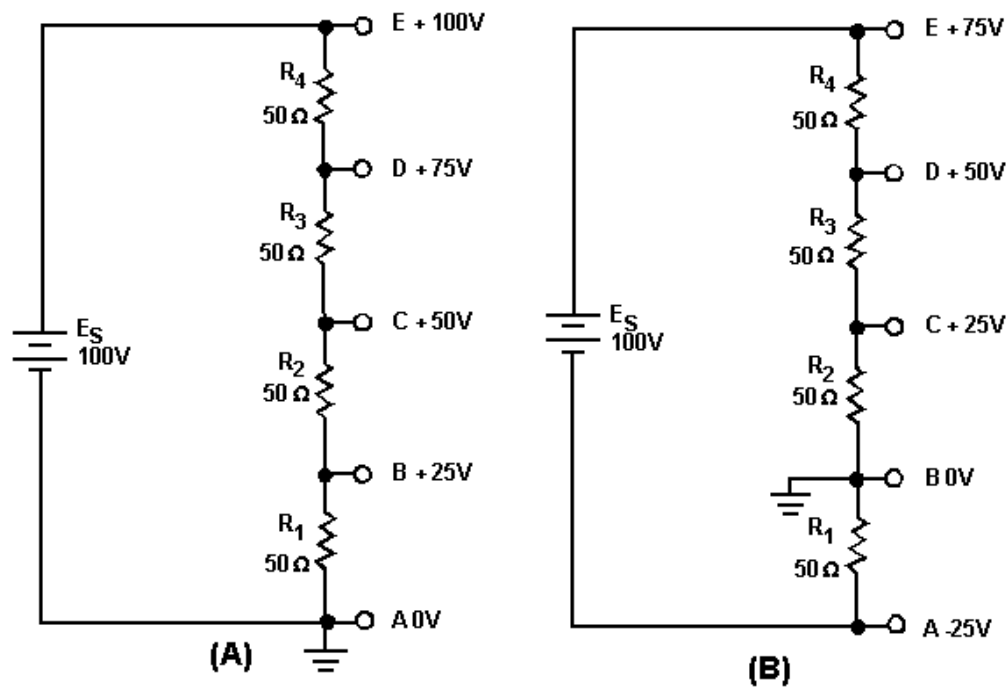

Figure 3-63.—Voltage polarities.
Voltage polarities are considered as being positive or negative in respect to a reference point, usually ground. Figure 3-63 will help to illustrate this point.
Figure 3-63(A) shows a series circuit with a voltage source of 100 volts and four 50-ohm resistors connected in series. The ground, or reference point, is connected to one end of resistor R_1 . The current in this circuit determined by Ohm's law is .5 amp. Each resistor develops (drops) 25 volts. The five tap-off points indicated in the schematic are points at which the voltage can be measured. As indicated on the schematic, the voltage measured at each of the points from point A to point E starts at zero volts and becomes more positive in 25 volt steps to a value of positive 100 volts.
In figure 3-63(B), the ground, or reference point has been moved to point B. The current in the circuit is still .5 amp and each resistor still develops 25 volts. The total voltage developed in the circuit remains at 100 volts, but because the reference point has been changed, the voltage at point A is negative 25 volts. Point E, which was at positive 100 volts in figure 3-63(A), now has a voltage of positive 75 volts. As you can see the voltage at any point in the circuit is dependent on three factors; the current through the resistor, the ohmic value of the resistor, and the reference point in the circuit.